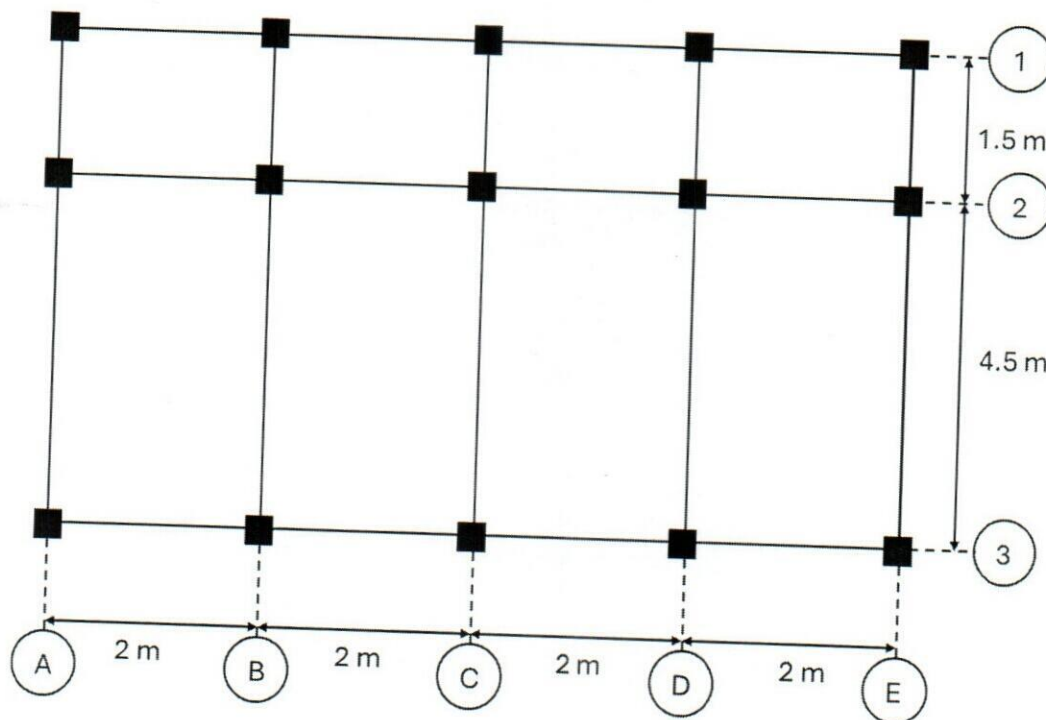

Figure Q1
- (c) A five-storey reinforced concrete building is to be used as an office building and the plan view at the third-floor level is shown in Figure Q1. Calculate the design load for **beam D(2-3)** for each of the three Serviceability Limit States of *Combination*, *Frequent* and *Quasi-permanent*, as specified in EC2. The following design information is provided. [10 marks]